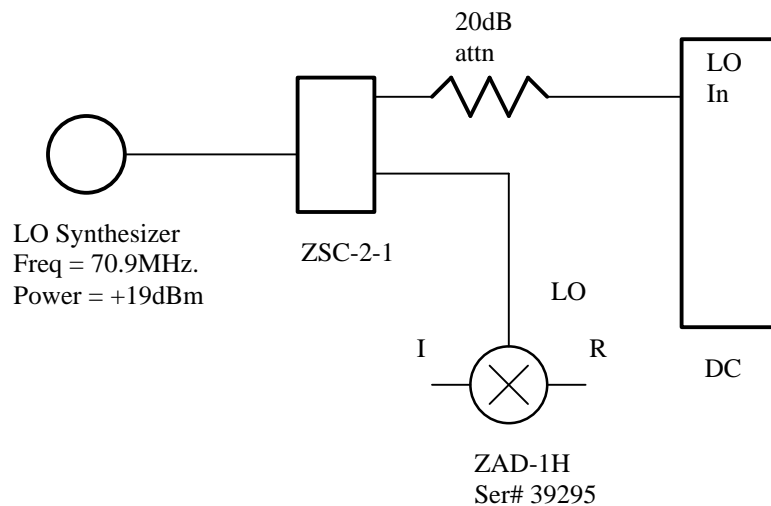

Figure 1
- 2.) Connect synthesizer output via splitter and 20dB pad to each LO input as shown in Figure 1.